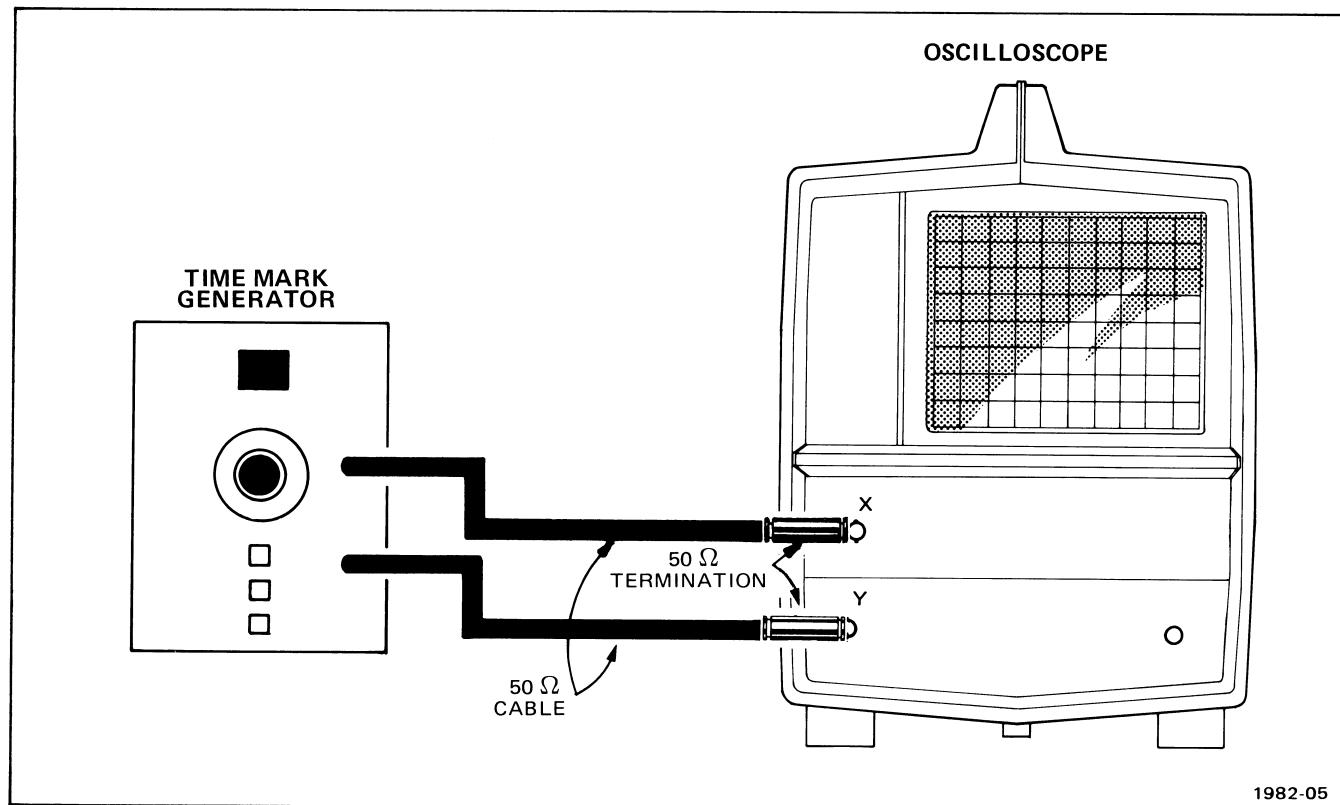

Fig. 3-4. Timing accuracy and writing rate check test setup.
a. Connect test setup as shown in Fig. 3-4.